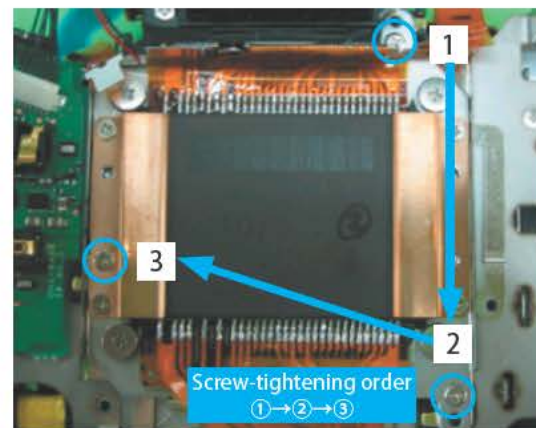

Fig. 081
- (2) Screw in the order shown in Fig. 081.